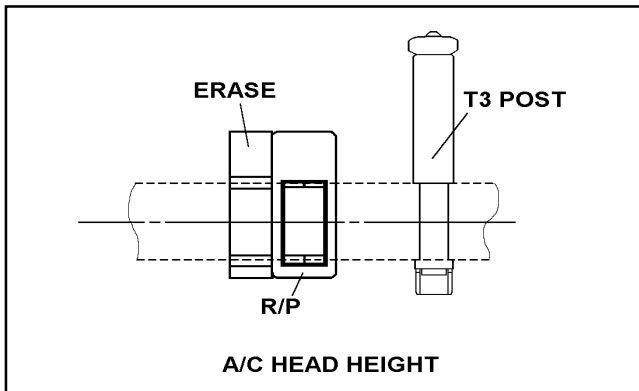

Figure 4-13-1
2. Perform the Height and X-value adjustment under the screw (G) tightened completely.
3. Be careful the tape damage at T3 Post, when adjust tilt of A/C Head. (refer to figure 4-13-1)